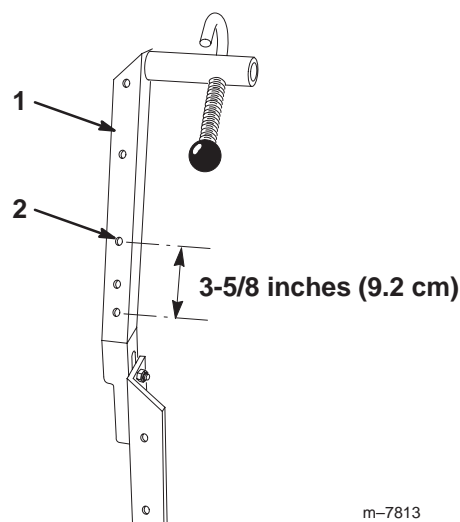

Figure 6
- If you have a standard boom on your machine, drill one hole (11/32 inch dia) in the right-side boom holder, 3-5/8 inches (9.2 cm) above the center of the lowest hole (Fig. 6).